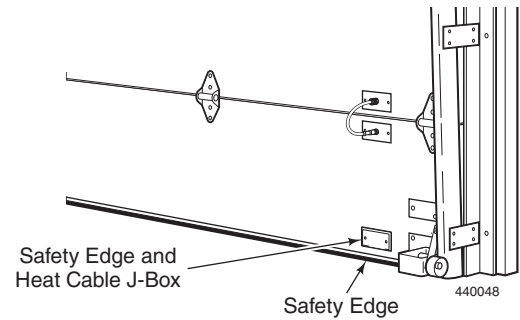

Figure 41
2. Test the sensitivity. Start the Door toward the closed position. Touch the Safety Edge with a tool to reverse the Door and verify the proper sensitivity. Alternatively, lay a 2x4 board flat under an open Door. The Door should reverse upon contact. See *Figure 41*.